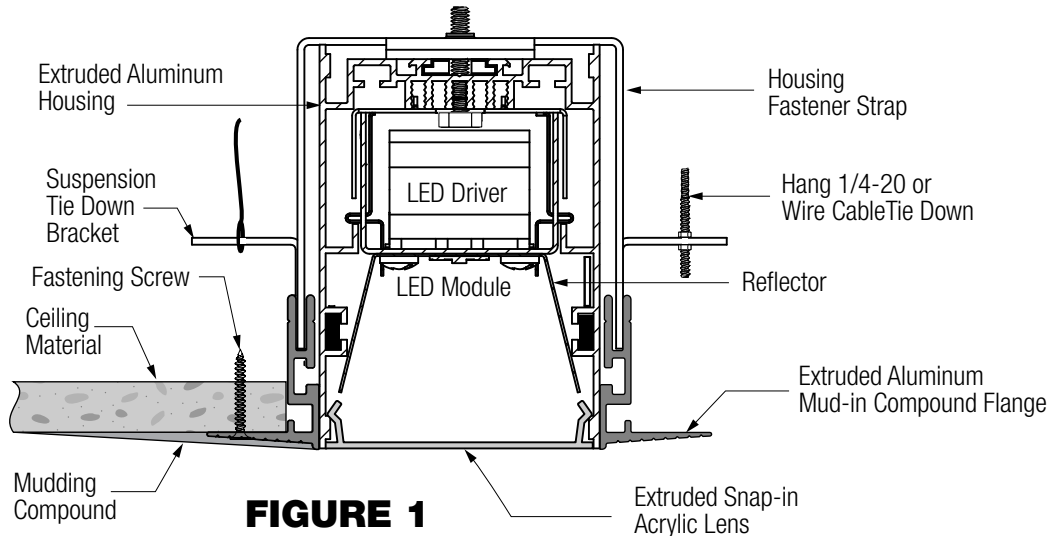

FIGURE 1
2. When SETTING HANGER ASSEMBLY be sure the top of the mud-in compound flange is flush to the bottom of the finished ceiling height. See Fig 1
1. SLIDE FIXTURE HOUSING INTO HANGER ASSEMBLY and fasten into place using hardware provided. Pre-set mounting locations match housing fastener strap. See Fig 1.
2. Fasten mud-in compound flange to ceiling. *PRIOR TO FASTENING MUD-IN COMPOUND FLANGE*, place lens into housing to ensure proper housing to lens width. *MUST TEST LENS FIT BEFORE MUD-IN.* Secure using drywall screws (provided by others). Screw through the flange and into the drywall. REMOVE LENS, tape and mud-in to trim edge spreading mudding compound a minimum of 6" onto finished ceiling. See Fig 1.